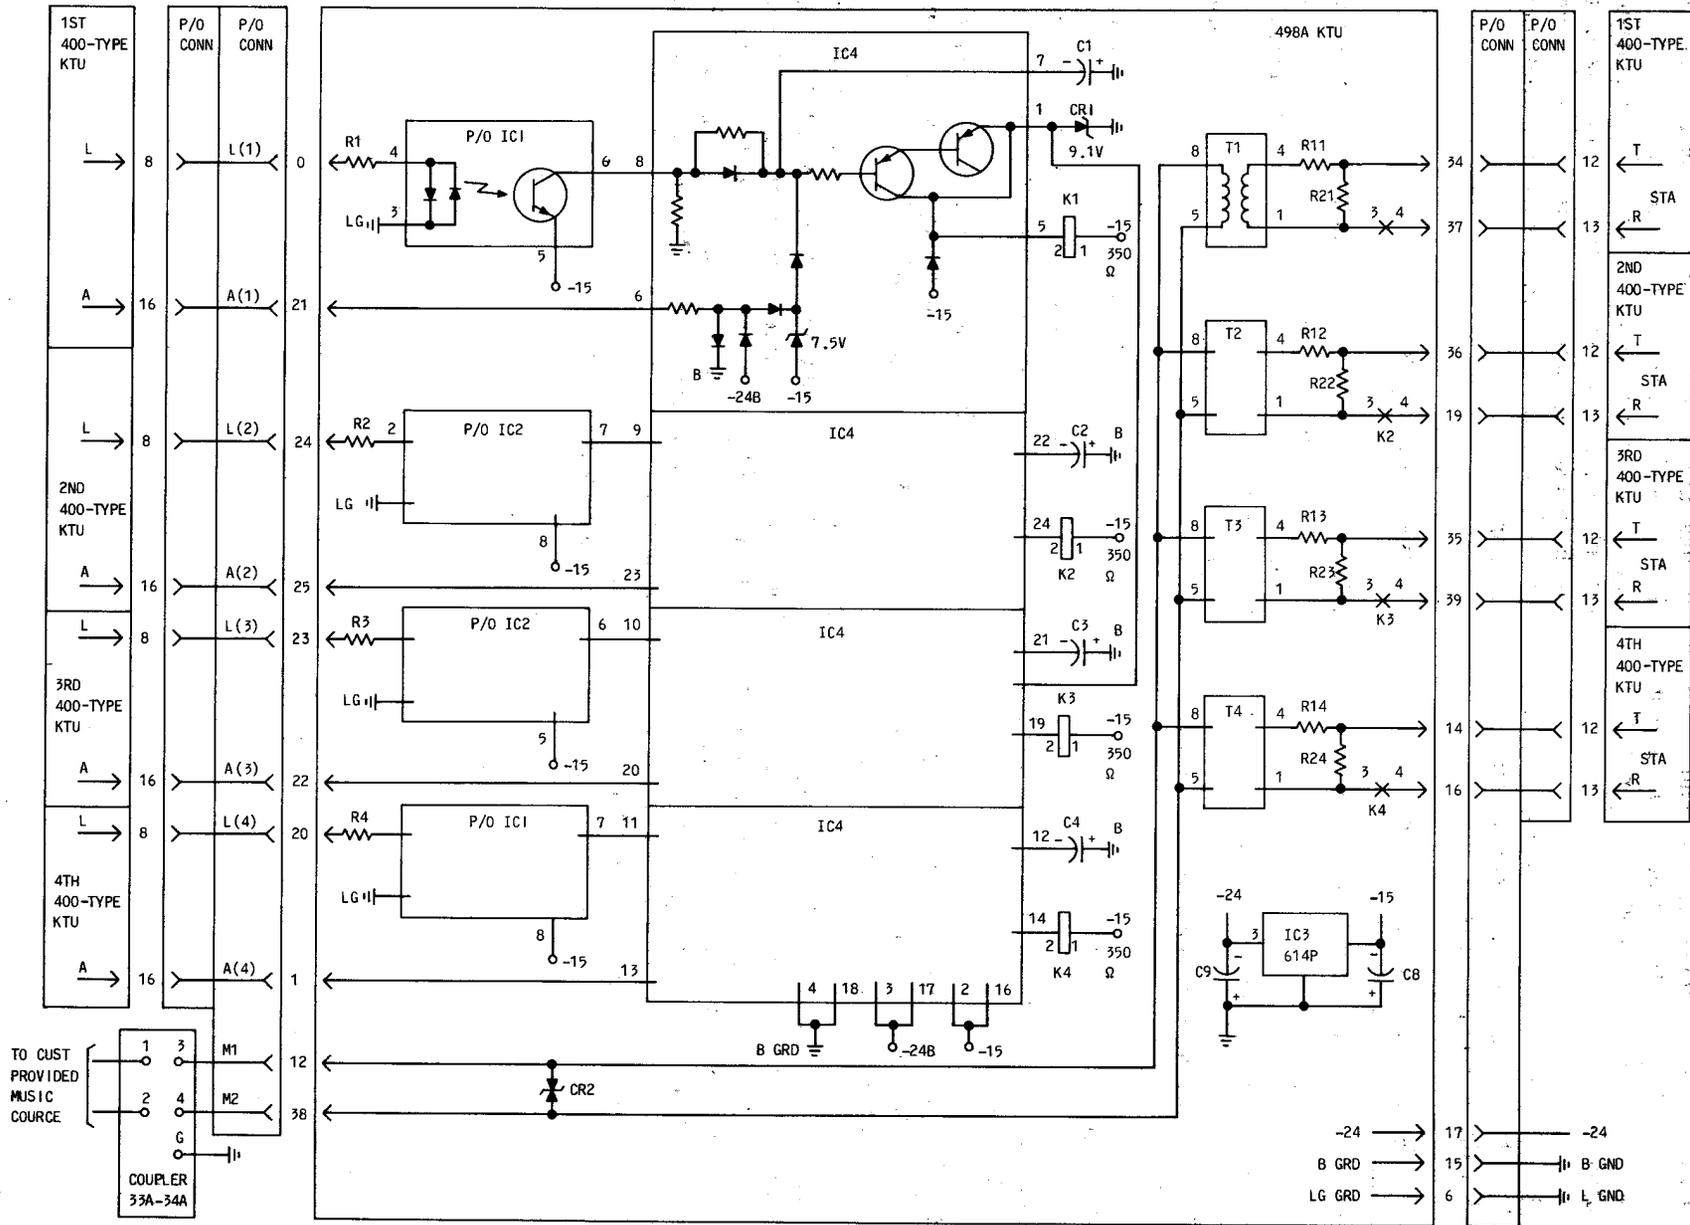
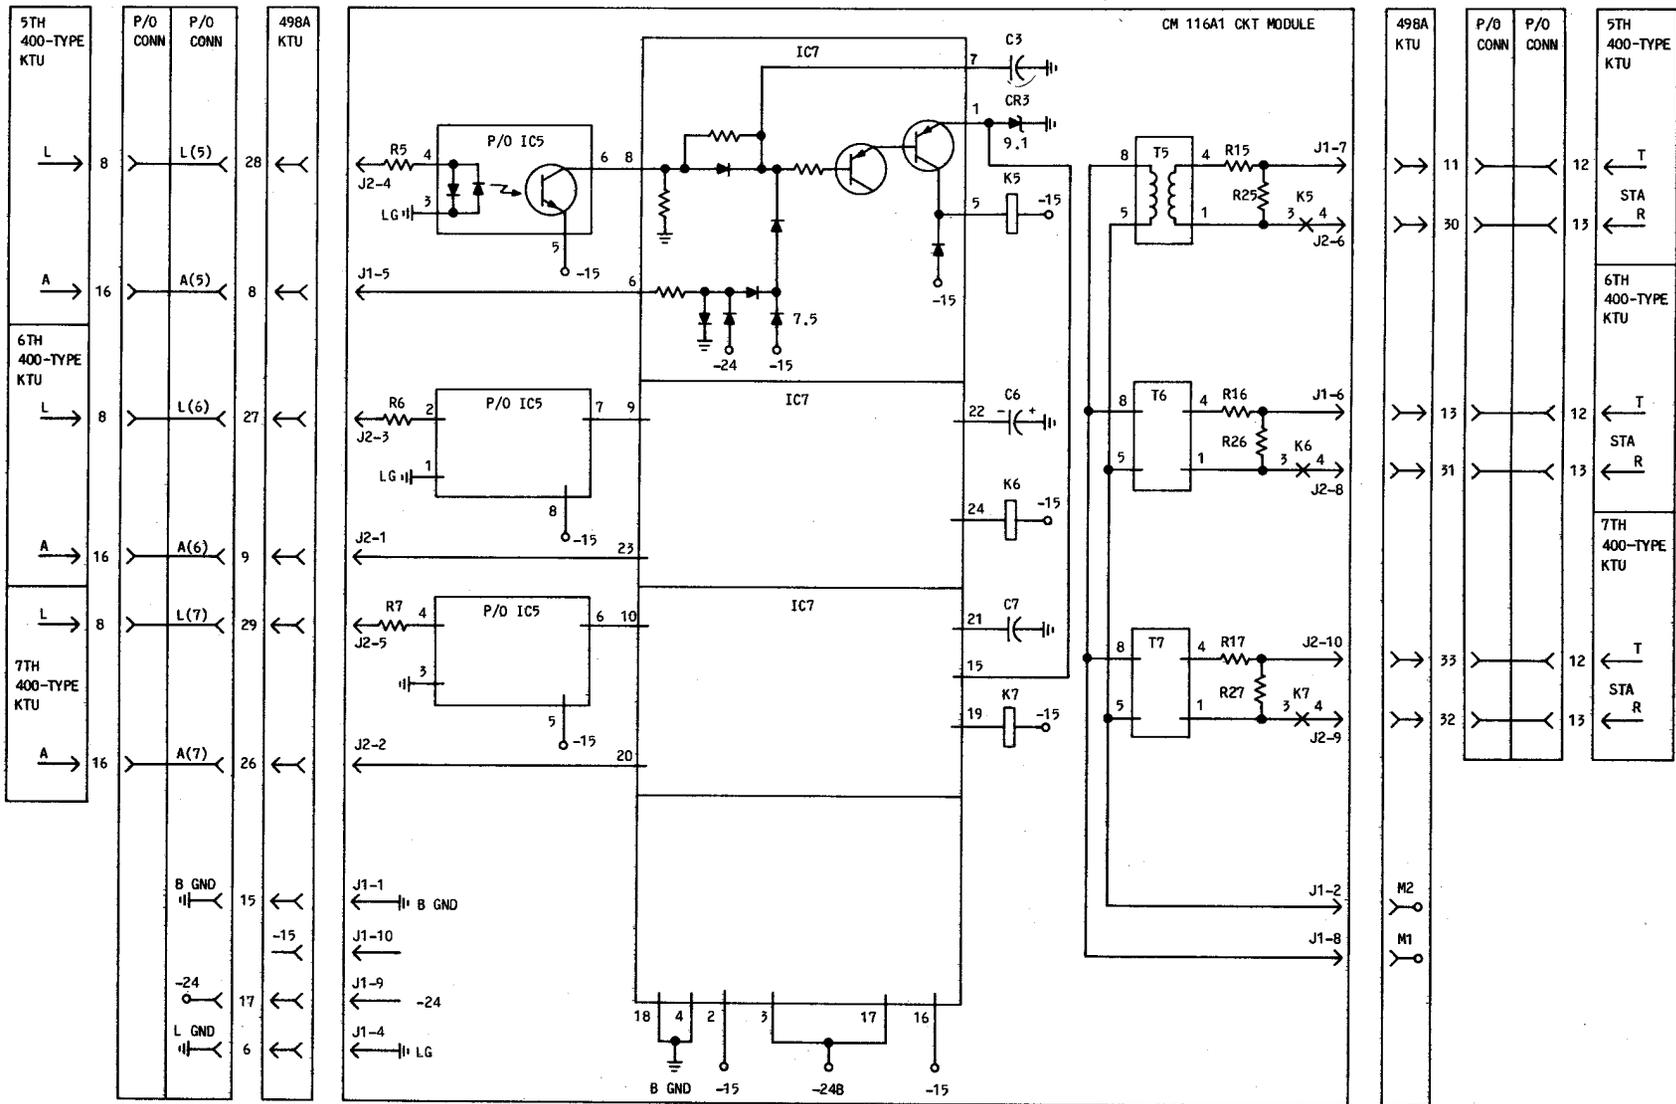

Fig. 13—Condensed Functional Schematic of 498A KTU (Music-On-Hold Circuit)
Fig. 14—Condensed Functional Schematic of 116A1 CM (Music-On-Hold Circuit)
2.26 The 498A KTU (Fig. 13) is a 4-inch, 40-contact unit which provides music-on-hold for four CO/PBX line circuits. An optional circuit module, 116A1 (Fig. 14), can be mounted on the 498A KTU to provide music-on-hold for an additional three lines.